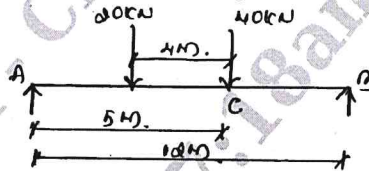

Fig.Q9(a)
- 9 a. Determine the max. negative and max. positive shear force at point 'C' for the beam which is crossed by two connected wheel load 4m apart moving from left to right. The front wheel carries a load of 40 kN and the rear wheel 20 kN. [Refer Fig.Q9(a)]